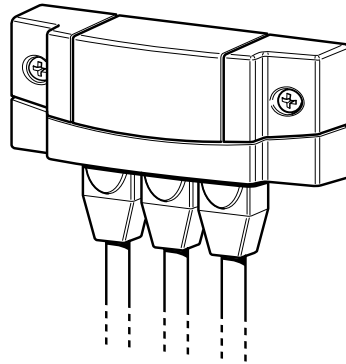

Figure 7 Recommended Mounting Orientation for Network Connector
1. Select an appropriate location with the connector in the recommended mounting orientation, as shown in Figure 7.